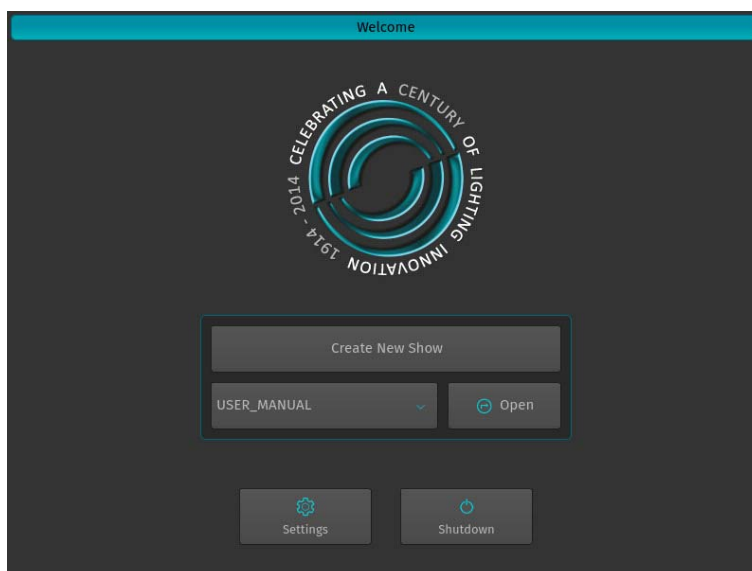

Figure 41: Welcome Screen
- The console will now start to boot. Additionally, the boot menu offers some test and maintenance utilities. The 500ML Lighting Control Console will perform a system check during boot up. Once the system is ready to use, the Welcome screen will appear (Figure 41).
From the Welcome Screen hit the Settings button as shown in Figure 41 on page 32. Or, you can open the Setup Dialog by selecting the [SETUP] key on the front panel instead.